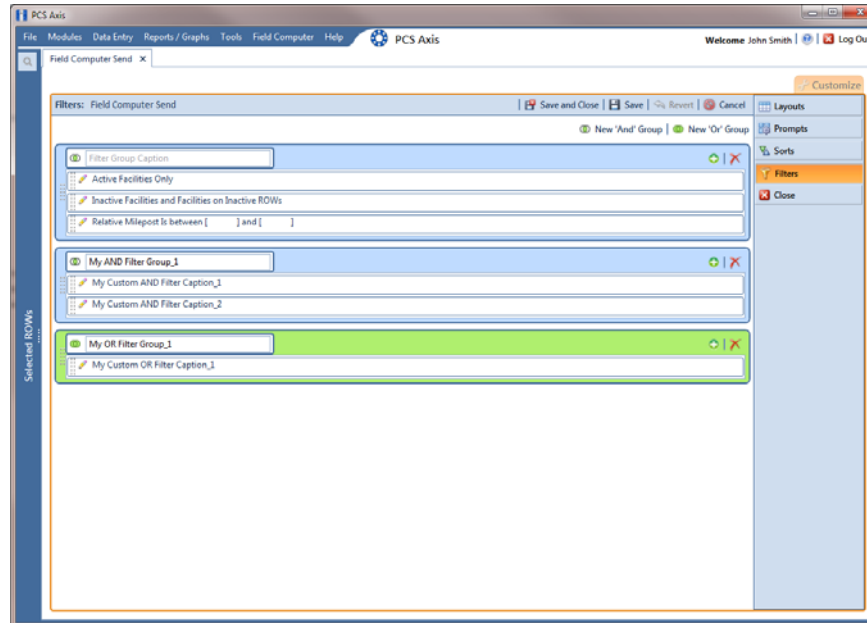

Figure 13-37. Filters
- 4 Click the **Customize** tab , then the **Filters** button  to open the *Filters* page (Figure 13-37, page 559).